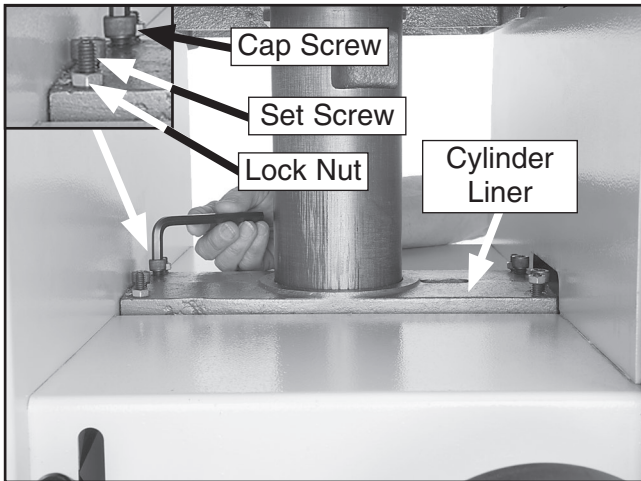

Figure 77. Adjusting table parallelism.
- Loosen the four cap screws on the cylinder liner, as shown in **Figure 77**.